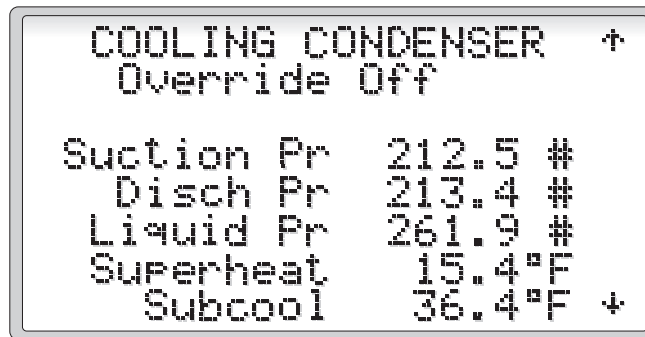

Figure 62
2.3.3.8 Diagnostics (Figures 62 through 65)